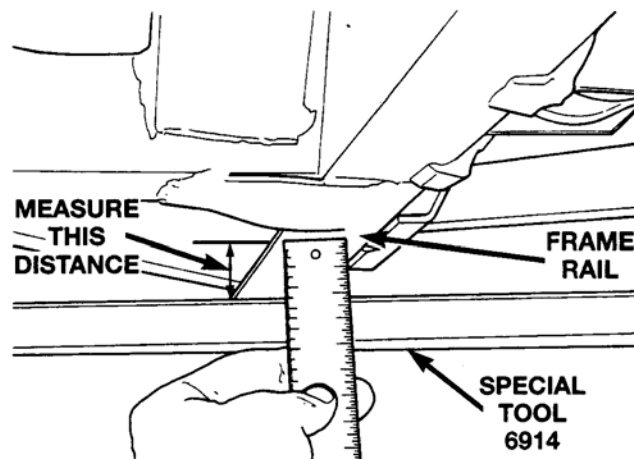

Figure 14
b. Check the distance from the bottom of each of the **front** frame rails to the top surface of the Vehicle Height Checking Fixture (Special Tool #6914) (Figure 14). The distance should be **2 inches  $\pm$  ¼ inch (50 mm  $\pm$  6 mm)**.